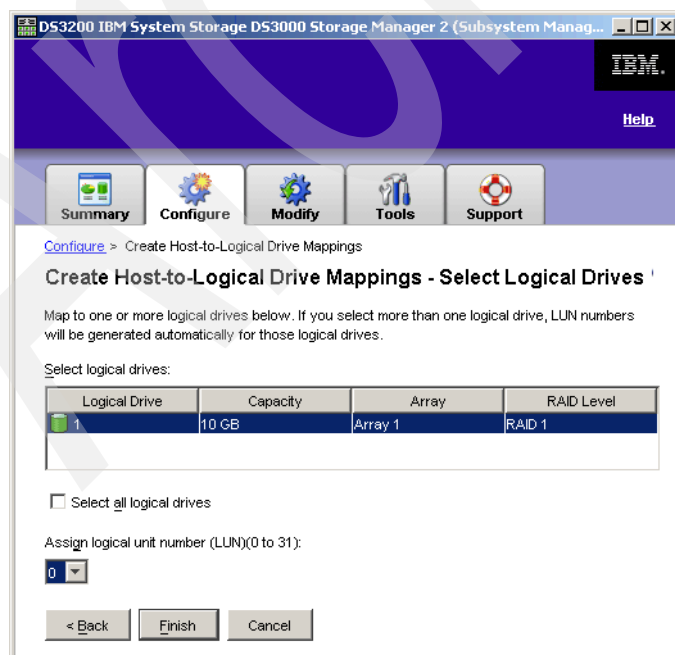

Figure 16-14 Select logical drives
2. Select the logical drives that will be mapped to our host. In our case, we highlight logical drive 1 and assign LUN 0 to it, as shown in Figure 16-14.